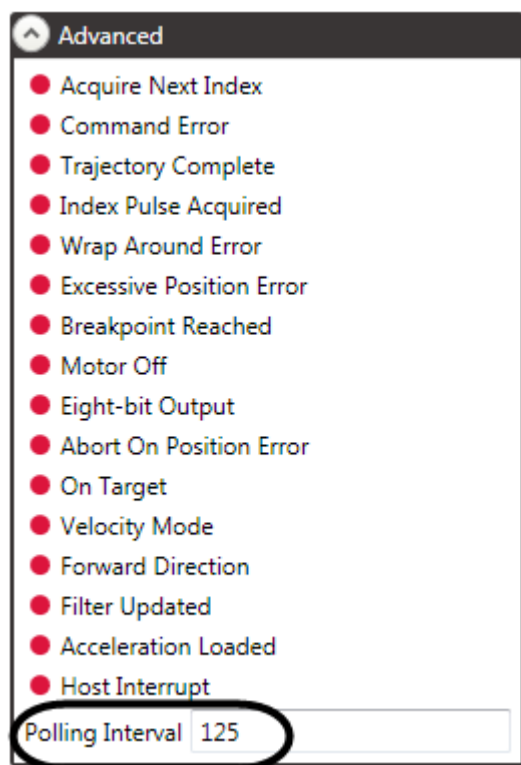

Figure 154
3. Enter a new value in the **Polling Interval** field (Figure 154).